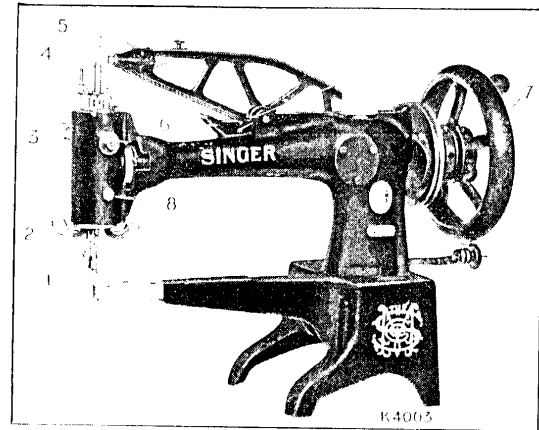
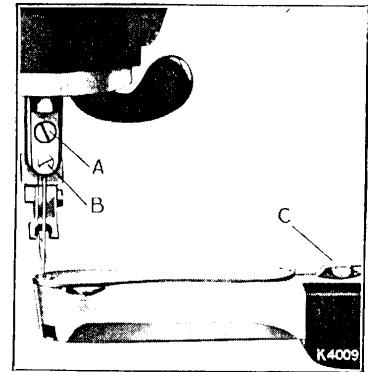
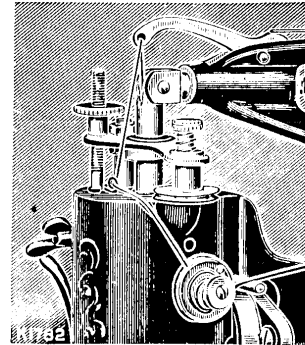
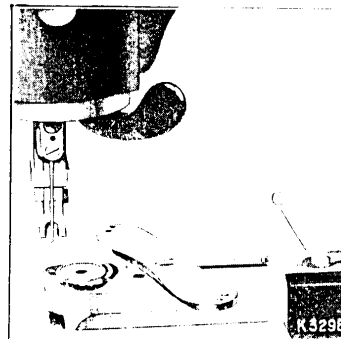

Fig. 1
Fig. 3.
Fig. 5.
Fig. 11.
(See Fig. 1)
Raise the needle bar (4, Fig. 1) to its highest, loosen the screw (B, Fig. 3) and insert the shank of the needle up into the needle clamp as far as it will go, with the long groove of the needle to the left, and its eye directly in line with the arm of the machine. Tighten the screw (B). Loosen the screw (A) and move the clamp to right or left until the needle passes through the centre of the hole in the needle plate, then tighten screw (A).
Place a reel of thread on the spool pin on the arm of the machine, so that the thread will draw from the back. Raise the wire guide in the oil cup (6, Fig. 1) on the top of the arm and, after passing the thread under the wire guide, press it back into position. Then pass the thread at the back of the pin which is near the tension discs on the top of the machine head, from back to front and right to left
between the tension discs, into the wire thread eyelet, and up and from front to back through the hole in the end of the take-up lever (5, Fig. 1). Draw about 10 inches of thread and insert the end into the slit in the end of the threading wire supplied with the machine. Now pass it from the back of the lever (5, Fig. 1) down through the hole in the centre of the needle bar, and from left to right through the eye of the needle, leaving an end of thread 3 or 4 inches long with which to commence sewing.
(See Fig. 5)
Raise the wire guide in the oil cup (6, Fig. 1) on the top of the arm and, after passing the thread under the wire guide, press it back into position. Then pass the thread over the pin near the tension discs in front of the arm (see Fig. 5), from right to left under and between the tension discs, up into the wire eyelet on top of the arm of the machine, and from front to back through the hole in the end of the take-up lever (5, Fig. 1). Draw about 10 inches of thread and insert the end into the slit in the end of the threading wire supplied with the machine; pass it from the back of the lever (5, Fig. 1) down through the hole in the centre of the needle bar, and from left to right through the eye of the needle, leaving an end of thread 3 or 4 inches long with which to commence sewing.
Raise the needle bar to its highest point and lift the feeding foot (1, Fig. 1) by means of the lifter (3, Fig. 1). Press down the lever (C, Fig. 11) and swing the needle plate round, as shown in Fig. 11. Turn the balance wheel until the point of the shuttle is nearest you, then lift out the shuttle with the thumb and fore-finger; turn it over and the bobbin will drop out.
After threading the shuttle, turn the balance wheel until the upright part of the shuttle carrier is to the right. Then, with the point of the shuttle nearest you, and pointing towards the right, drop it into the recess provided, as shown in Fig. 11.
Raise the needle bar to its highest point by turning the balance wheel, lift the feeding foot by means of the lifter (3, Fig. 1), and draw the material backward about 3 inches; then, cut the threads close to the work. Leave both ends of thread under the feeding foot.